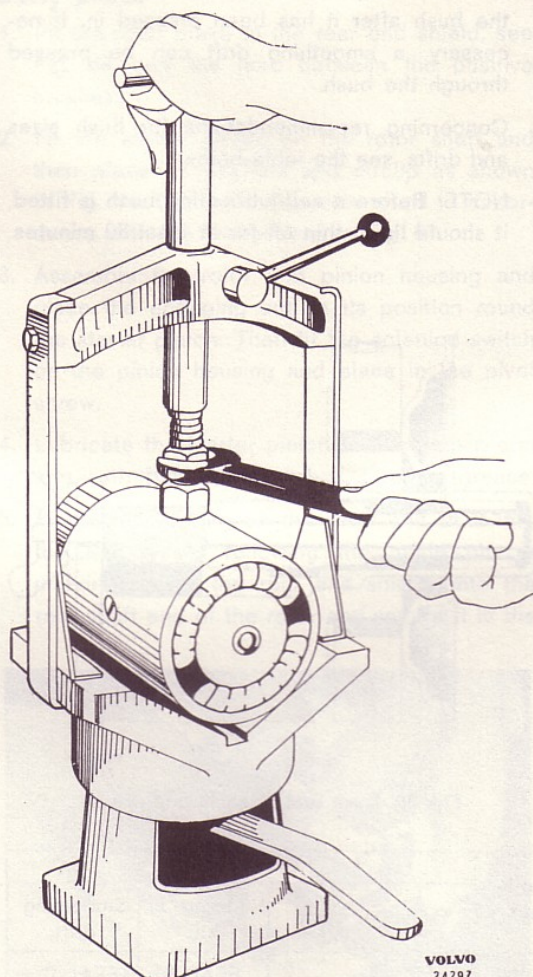

Fig. 63. Holding device for removing the field winding
3. Place the stator in the holding device as shown in Fig. 63. (Bosch EF AW 9) and unscrew the pole screws.